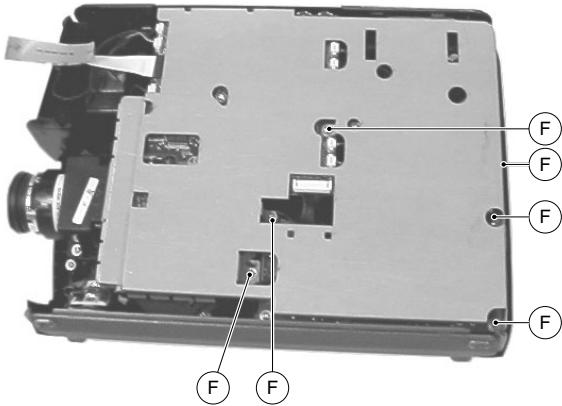
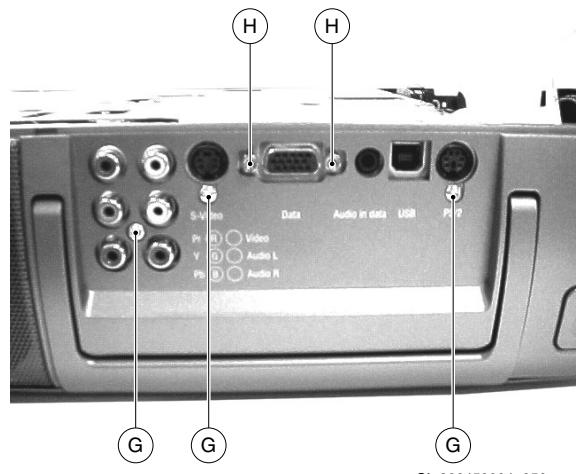

Fig. 5
Fig. 6
5. Remove the 6 screws "F" holding the top shield (Fig. 5). Then remove the 3 screws "G" and the 2 screws "H" (Fig. 6). Now the top shield can be removed.